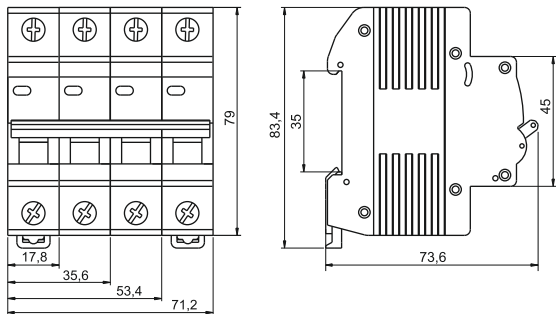

Рисунок 6 / Figure 6
3.5 Overall and installation dimensions are indicated in Figure 6.